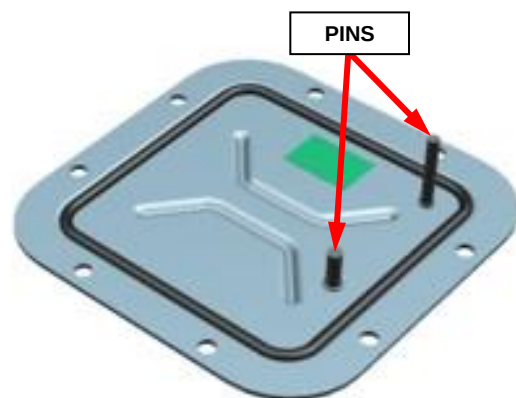

**Figure 4 – Access Cover Pins**
**NOTE:** Lift the cover straight up to avoid bending or damaging the pin on the cover that is used to engage the HVIL switch (Figure 4).